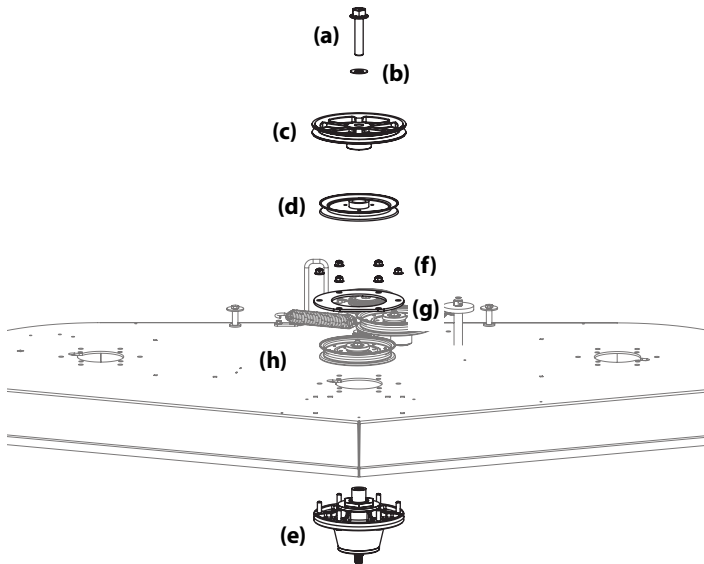

Figure 39
8. Remove the hex flange bolt (a) and flat washer (b) securing the drive pulley (c) and center spindle pulley (d) to the spindle assembly (e). See Figure 39.
9. Remove the six (6) flange lock nuts (f) securing the center (d) spindle assembly (e) and the support plates (g) to the deck shell (h). See Figure 39.